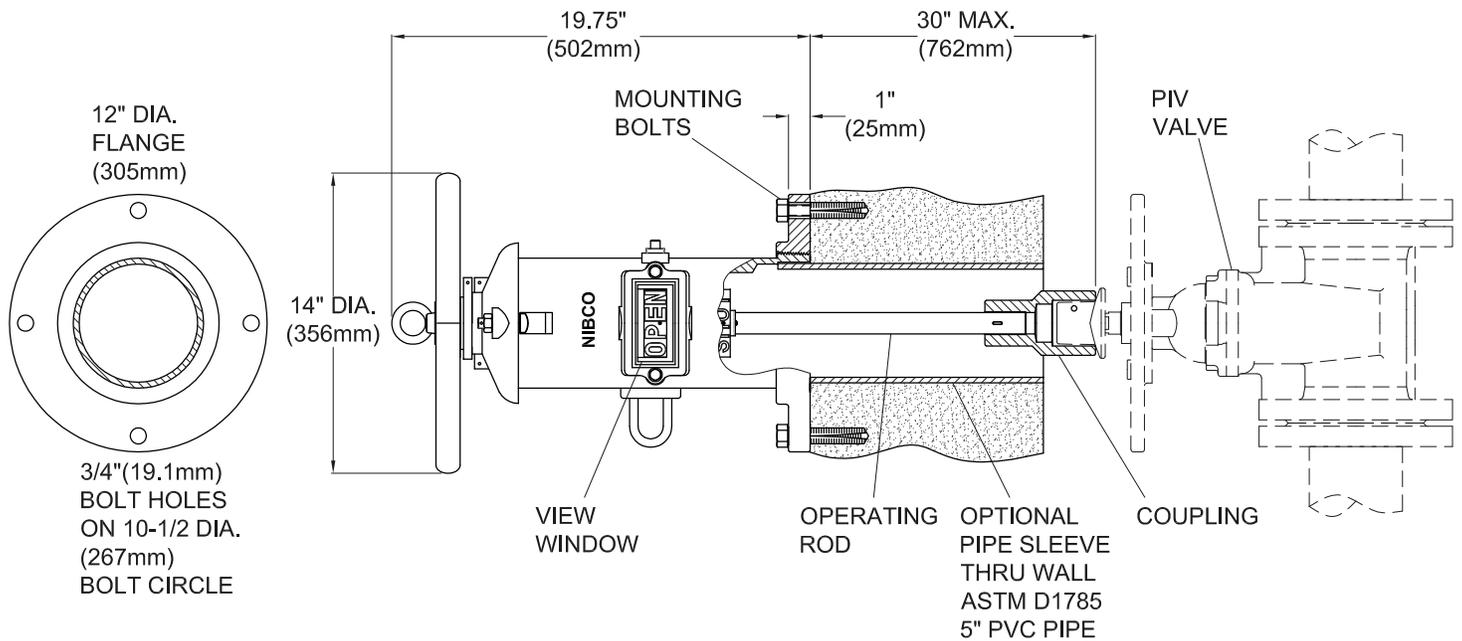

Fig. 4
- 3.5 Lift Wall Indicator Post assembly and insert Operating Rod (26) thru exterior wall and fully engage Coupling (25) onto Operating Nut of valve as shown in Fig. 4. Rotate and Orient Wall Post assembly until desired location of View Windows is obtained. Align and level Operating Rod with valve Operating Nut then mark position of 4 wall mounting holes thru Flange (27).